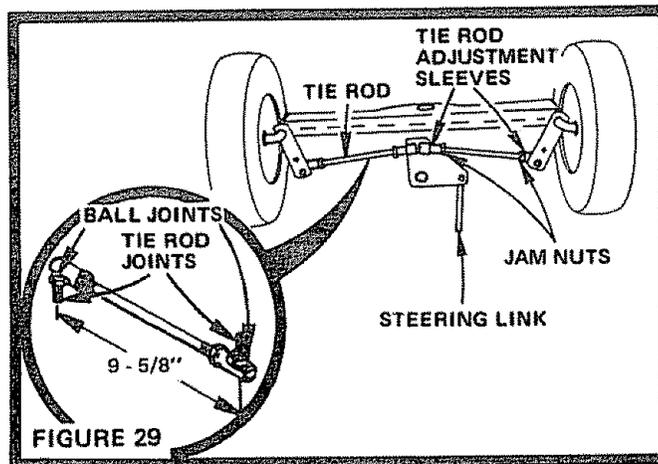

FIGURE 29
- a. Loosen Jam Nuts (Fig. 29) at each end of Tie Rod Adjustment Sleeves.